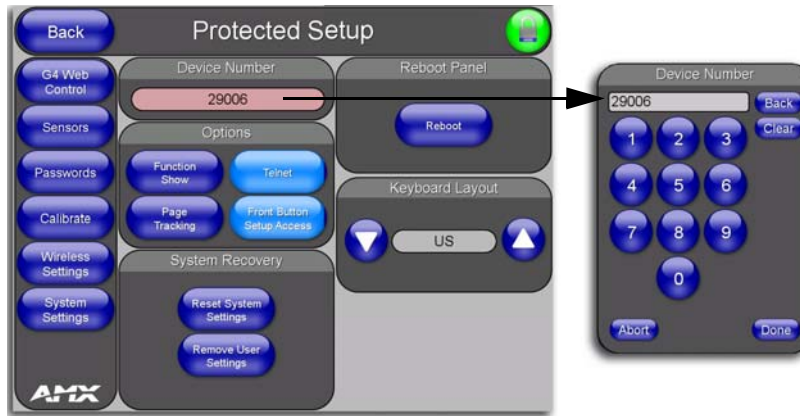

FIG. 51 Protected Setup page
4. Press the red **Device Number** field to open the Device Number keypad (FIG. 51).